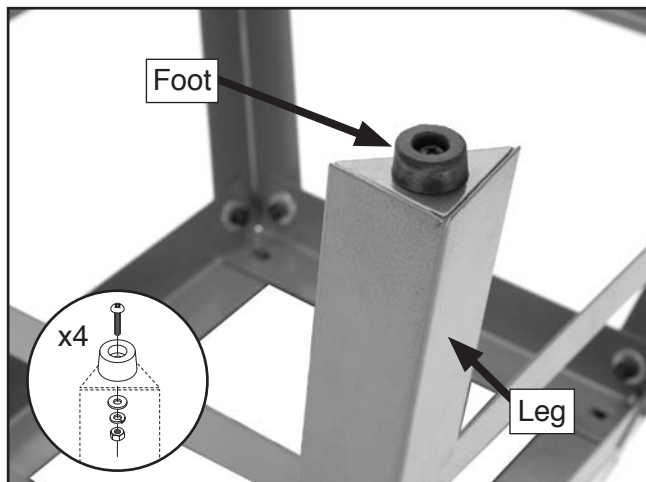

Figure 12. Foot attachment.
5. On each of the four legs, install a rubber foot by removing the hex nut and washers from the foot assembly, inserting the foot into the hole at the bottom of the leg, then securing the foot with the removed washers and nut, as shown in **Figure 12**.